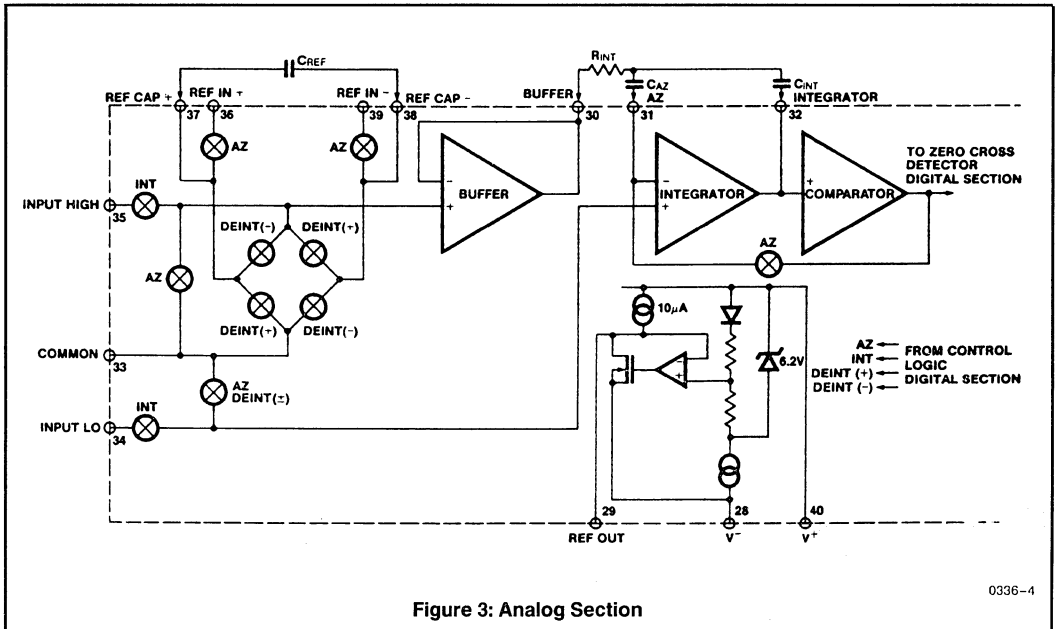
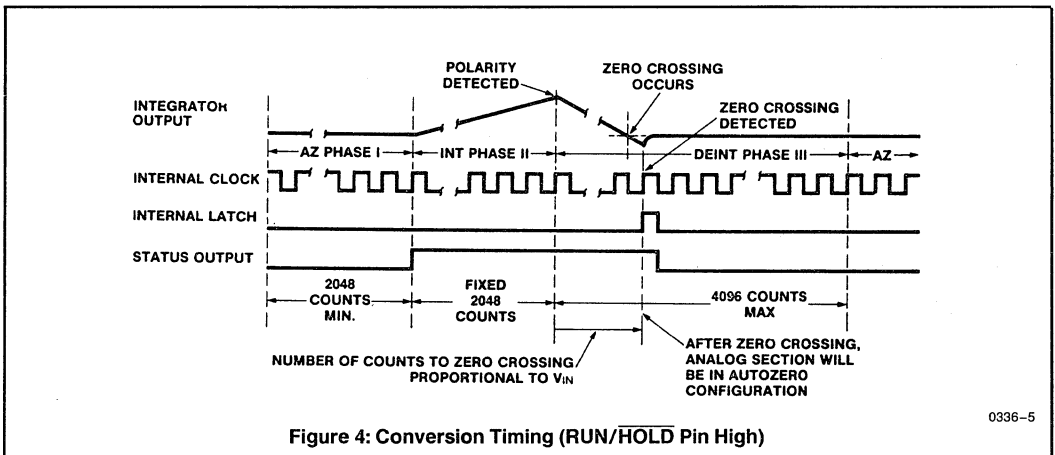

Figure 3: Analog Section
Figure 4: Conversion Timing (RUN/HOLD Pin High)
Figure 3 shows the equivalent circuit of the Analog Section of the ICL7109. When the RUN/HOLD input is left open or connected to V+, the circuit will perform conversions at a rate determined by the clock frequency (8192 clock periods per cycle). Each measurement cycle is divided into three phases as shown in Figure 4. They are (1) Auto-Zero (AZ), (2) Signal Integrate (INT) and (3) Deintegrate (DE).
During a conversion cycle, the STATUS output goes high at the beginning of Signal Integrate (Phase II), and goes low one-half clock period after new data from the conversion has been stored in the output latches. See Figure 4 for details of this timing. This signal may be used as a "data valid" flag (data never changes while STATUS is low) to drive interrupts, or for monitoring the status of the converter.
When the RUN/HOLD input is high, or left open, the circuit will continuously perform conversion cycles, updating the output latches after zero crossing during the Deintegrate (Phase III) portion of the conversion cycle (See Figure 4). In this mode of operation, the conversion cycle will be performed in 8192 clock periods, regardless of the resulting value.